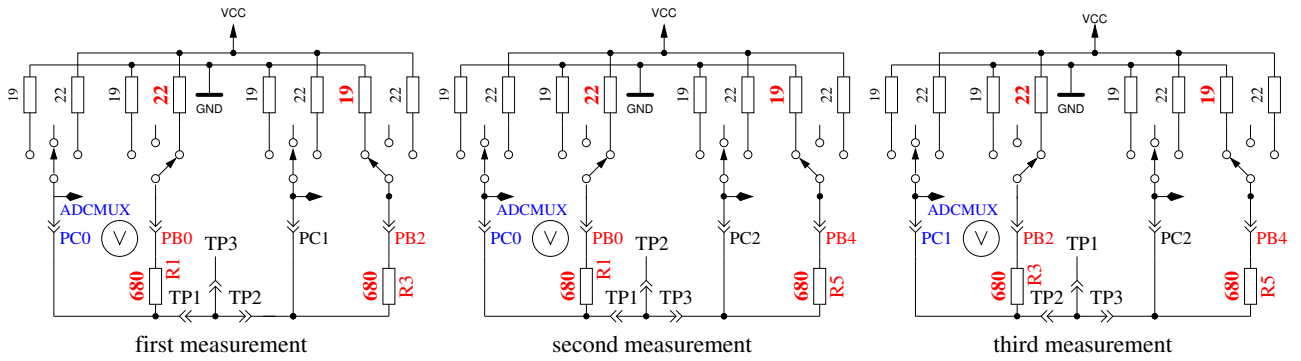

Figure 5.51: Comparison of 680Ω resistors
2. **Comparing of the  $680\Omega$  resistors.** In row 1 the cryptic text “+RL- 12 13 23” is shown. Meaning of this is as follows: The RL is the short form of Resistor Low meaning the  $680\Omega$  resistors. The 12 stand for: resistor at pin 1 is connected to VCC (+) and resistor at pin 2 is connected to GND (-). The result of this measurement is displayed in row 2 at the first place as difference to the theoretical value. In row 1 follows now a “13” which means, that the first connection of measurement 1 is still connected with  $680\Omega$  to VCC but that the resistor of pin 3 is connected to GND. The result is displayed in the middle place of row 2 as difference to the theoretical value. The last measurement of this test “23.” means that now the resistor at pin 2 is connected to VCC (+) and the resistor of pin 3 is connected to GND. The result of measurement is displayed at the last place of LCR row 2 as difference to the theoretical value. Please remember, that the resolution of the ADC is about 4.88mV! The measurement situation is also shown in figure 5.51. The theoretical value with respect to the internal resistance of the pins should be: